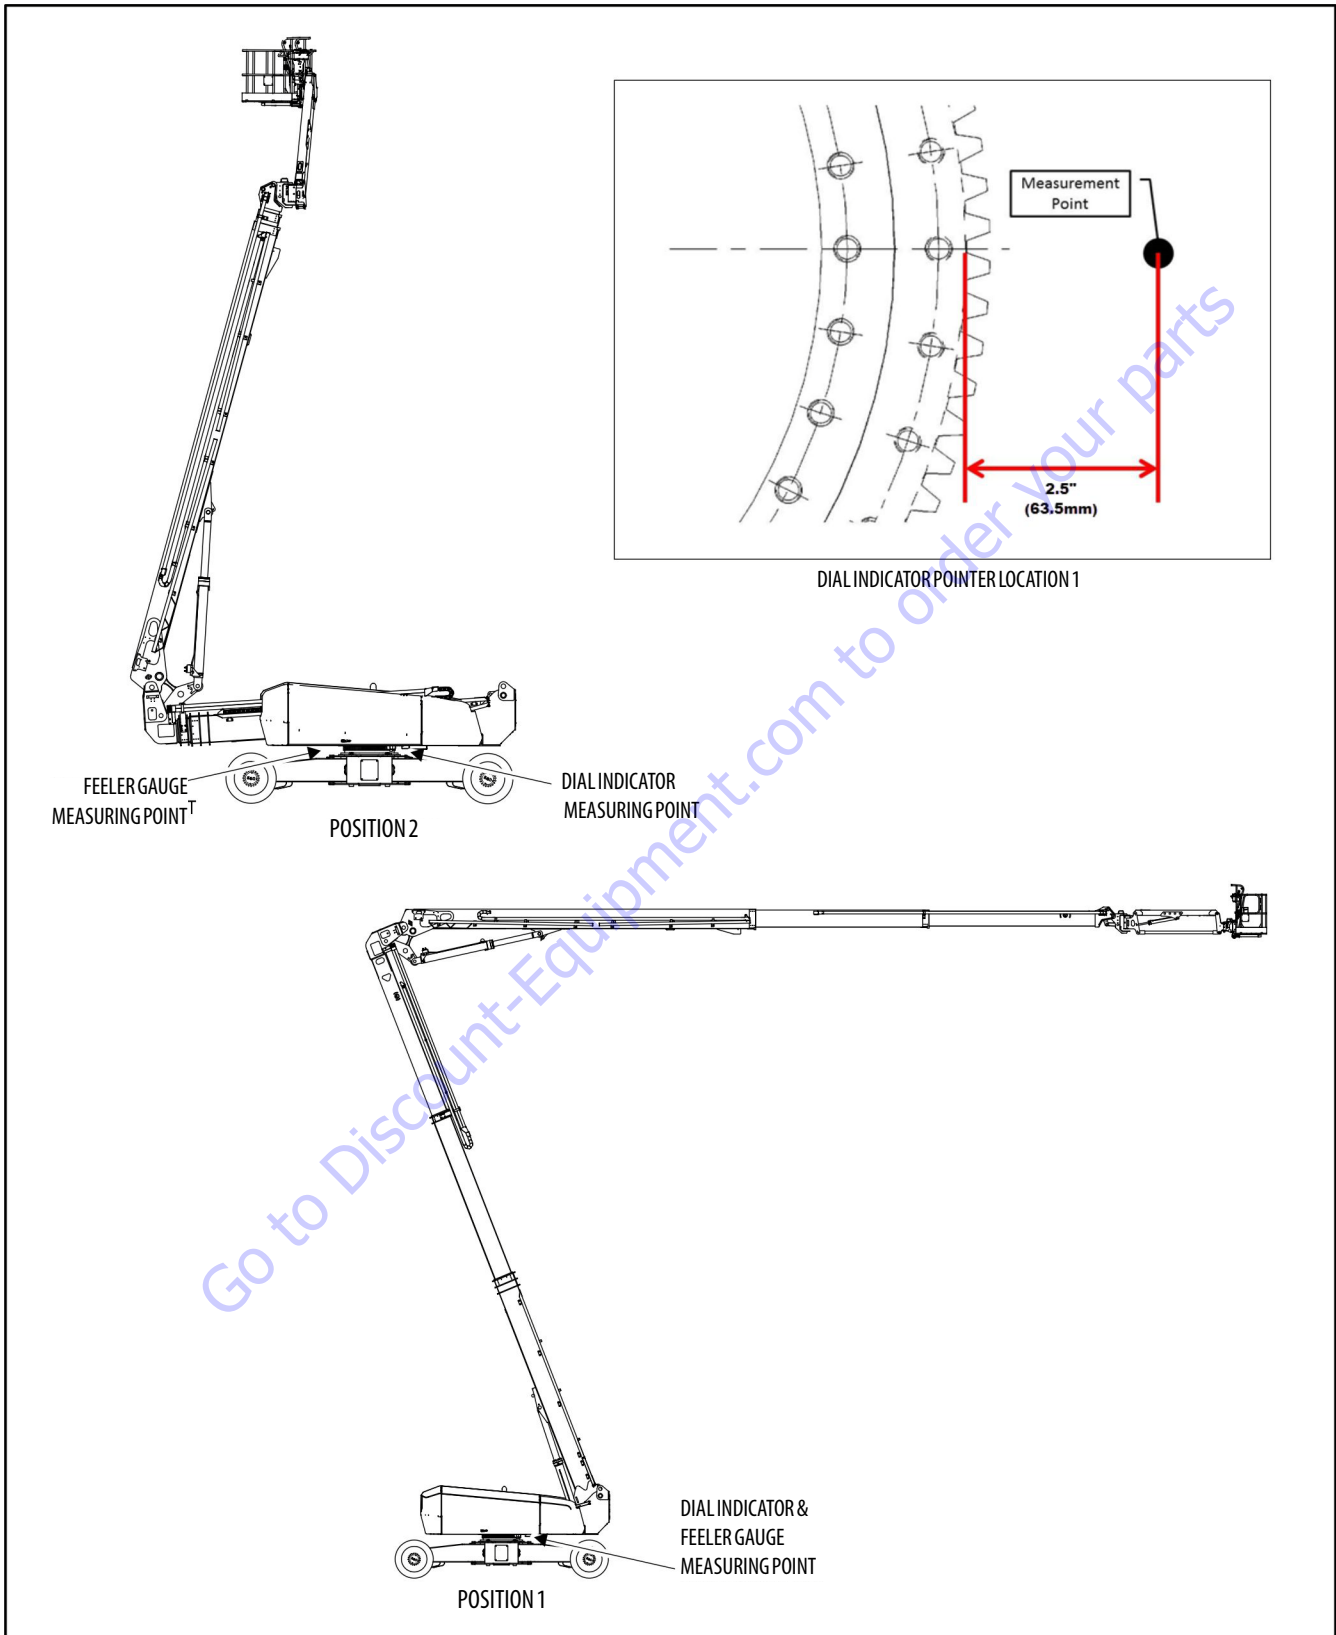

Figure 3-53. Swing Bearing Wear Tolerance
- a. Fully elevate the main boom. (Position 2, Figure 3-53.)
- b. At the position indicated on Figure 3-53., try to insert a 0.0015" feeler gauge between the bolt and hardened washer at the arrow indicated position.
- d. At the position indicated on Position 1 Figure 3-53., try and insert the 0.0015" feeler gauge between the bolt head and hardened washer at the arrow indicated position.
See Figure 3-53., Swing Bearing Wear Tolerance.
1. Position the machine as follows and as seen in Figure 3-53., Swing Bearing Wear Tolerance, Position 1:
- c. The indicator point needs positioned to measure the turntable base plate 2.5 inches from the root of the gear tooth. Refer to Figure 3-53., Swing Bearing Wear Tolerance.
7. Return the machine to Figure 3-53., Swing Bearing Wear Tolerance, Position 1. The dial indicator should to return to zero. If the dial indicator does not return to zero, take corrective action and repeat the test.